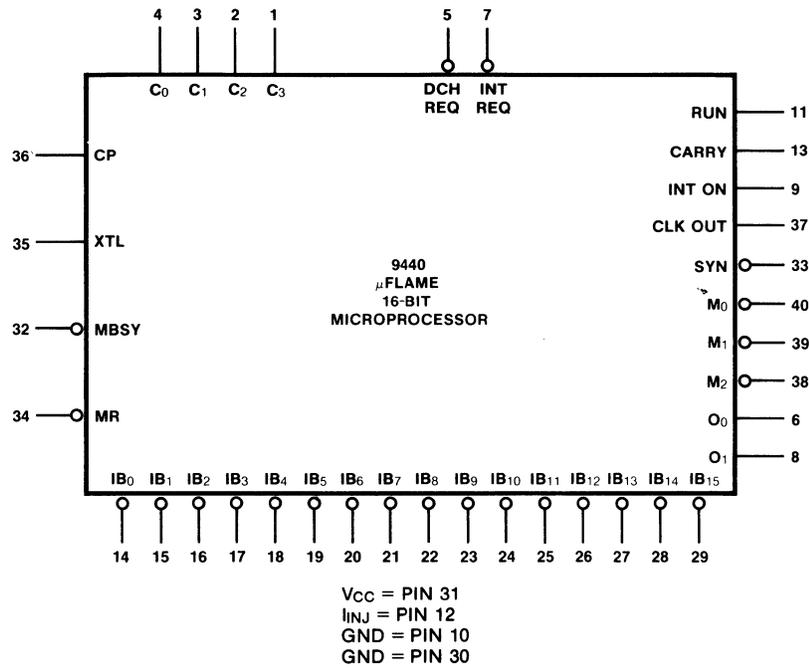

Fig. 3 Logic Symbol
**9440 SIGNAL DESCRIPTIONS** (Figure 3)